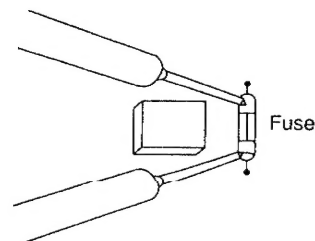

Fig. 5
- Check for continuity using a multimeter as shown in Fig. 5.